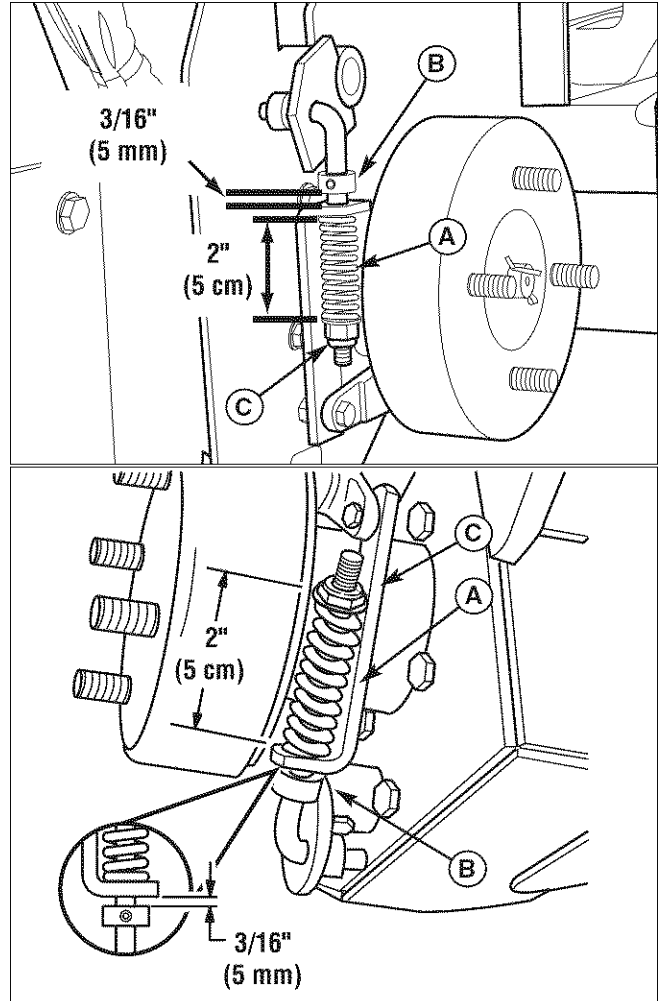

Figure 27. Parking Brake Adjustment
3. Check the brake spring (A, Figure 27) length (both wheels). With the brake engaged the compressed spring length should be 2" (5 cm). If not, adjust the locknut (C) to achieve the compressed spring length of 2" (5 cm).
4. After achieving the correct spring compression, check the set collar gap (B). With the parking brake engaged, the set collar gap should be 3/16" (5 mm). If not, loosen the set collar screw and move the collar to the correct position.